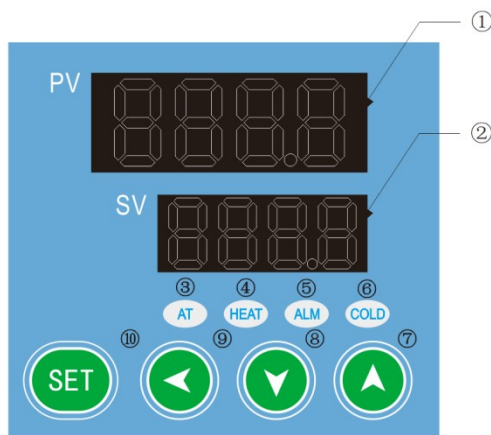

Figure 1
- ③ AT (running indicator light): It lights up when the controller is working, flashes during auto-tuning, and goes off when it stops.
- ④ HEAT (heating indicator light): It lights up when there is heating output.
- ⑤ ALM (alarm indicator light): Lights up when there is an alarm output, and the buzzer sounds.
- ⑥ COLD (refrigeration indicator light): on when there is refrigeration output. (Note: this product has no COLD refrigeration function)
- ⑦ Used to adjust various parameter values or enter the auto-tuning state.
- ⑧ Used to adjust the internal parameter value or enter the self-tuning state.
- ⑨ Shift key: used to shift the set value, internal parameter and observe the timing running time.
- ⑩ Function keys:
- 2.1 The layout of the product temperature controller panel (see Figure 1).